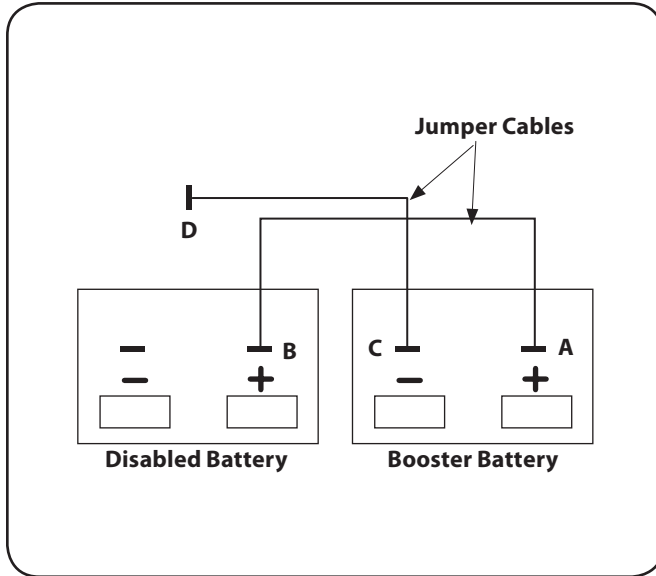

Figure 6-2
1. Connect positive (+) jumper cable to booster battery positive (+) post (A). See Fig. 6-2.
Inspect the front and rear shocks every 100 hours or once a year for oil leakage. See Fig. 6-2. If excessive oil leakage appears, have shocks repaired or replaced by your local Cub Cadet dealer.